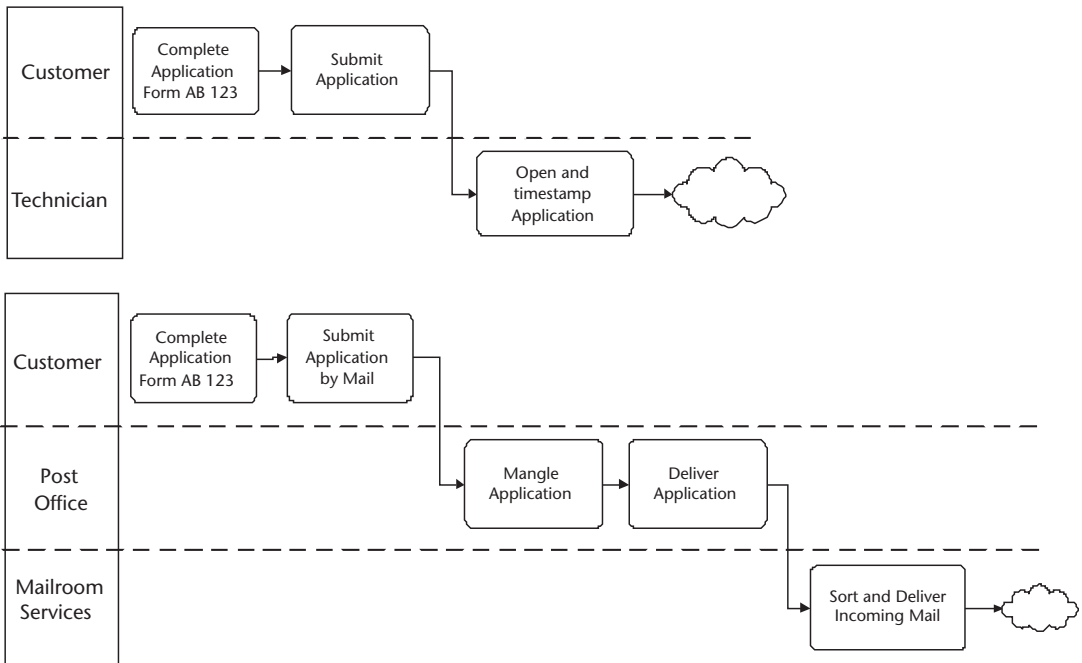

Figure 11.1 Question 1, “How does it get there?”
1. If there's a handoff, "how does it get there?" You will recognize that we've asked this before—it was the second of the three questions we asked while developing the initial diagram. However, when we ask it again, we look specifically for external "courier processes" and systems. When we ask, "how is the work transported from the previous step to this step?" we sometimes discover that additional actors who perform a delivery service are involved. An upcoming example is full of such cases. In some cases the handoff is accomplished by an information system. In either case, the additional actors might introduce delay, error, or expense. See Figure 11.1.